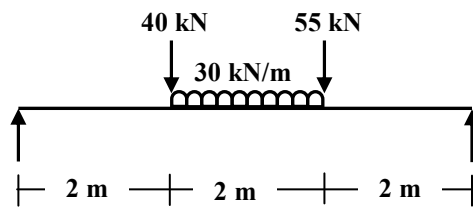

FIGURE-3 Q-3 (b) OR
- (b) Draw shear force and bending moment diagram for a beam as shown in figure-3. 7